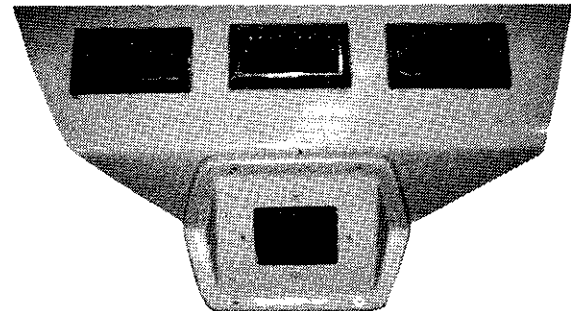

Figure 2-14. CCTV Camera Port
CLOSED CIRCUIT TV MONITOR— Operation will be covered in conjunction with figure 2-14.
- CCTV camera, located in the rear of the coach, figure 2-14.